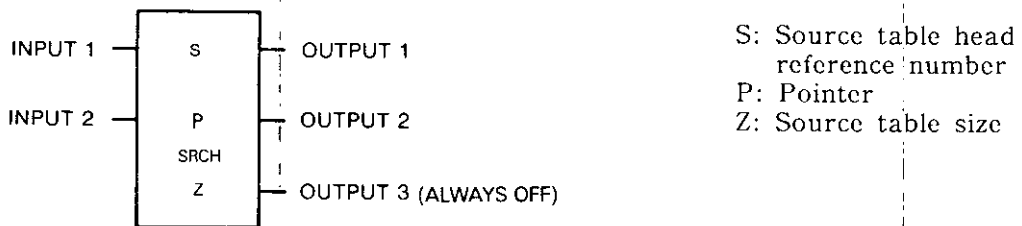

Fig. 5.57 SRCH General Form
- Fig. 5.57 shows the form of search.